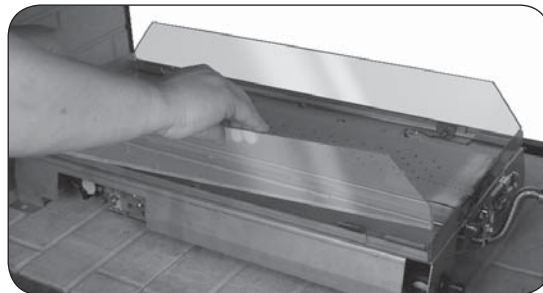
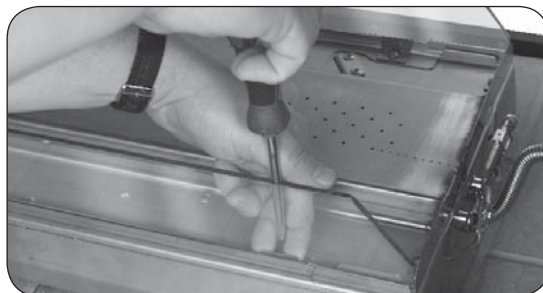

Fig. 15-1 Glass Panel Positioning
Fig. 15-2 Securing Glass Panel
- Each side of the burner has tabs designed to hold the glass panels in place. First loosen the screws on the tabs with a screwdriver. Then position a glass panel in place, secure the tabs up against the panel, and fasten the screws. Repeat for the opposite side. Reference Fig. 15-1 and Fig. 15-2.